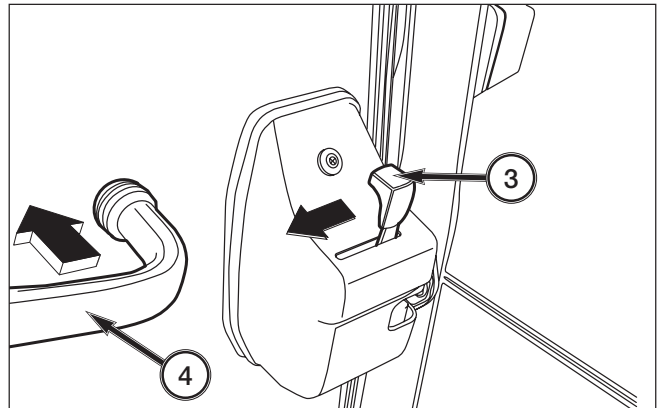

FIG. 5-95
FIG. 5-95: To open the door from inside the cabin, move the door lever(3) rearward and push door frame(4). To close the door, grasp the door handle(2) or door frame(4) and close slowly.